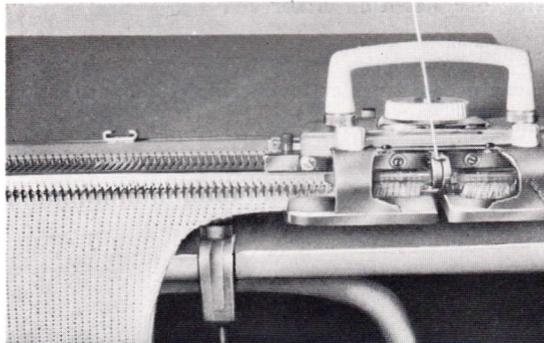

Fig. 54
- 3) Set the change levers in position F, move the carriage. Push up the needles in the increasing part before knitting, place the stitches behind the latches of the needles, until 3 rows is finished. (See Fig. 54)